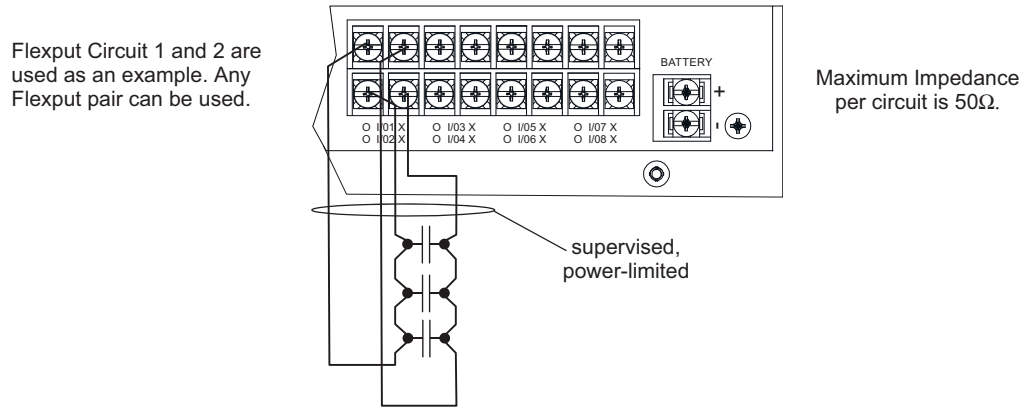

Figure 4.49 Class A Initiating Switches
1. Wire the Class A switch as shown in Figure 4.49.
NOTE: In programming any point that uses multiple Flexput circuits, the lowest Flexput circuit number is used to refer to the circuit pair. For example, Figure 4.49 uses both Flexput circuit 1 and 2, so in programming it would be referred to as point 1.